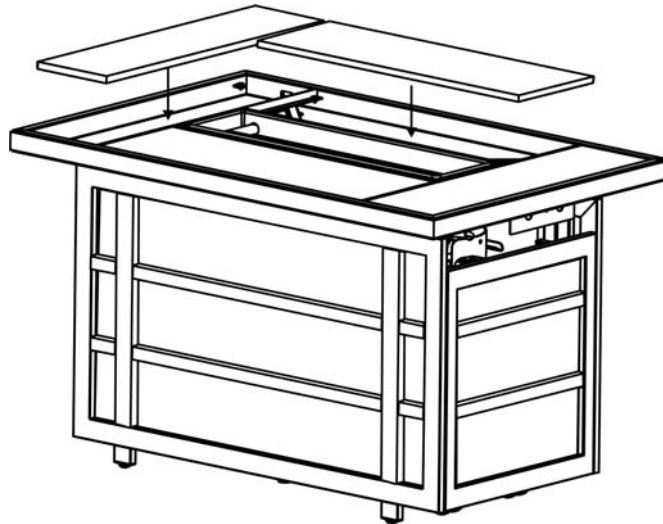

Figure 8
9. Note the clear bumpers spaced evenly throughout the inside of the table rim. Carefully place tiles inside table rim, resting on the clear bumpers as shown in Figure 8